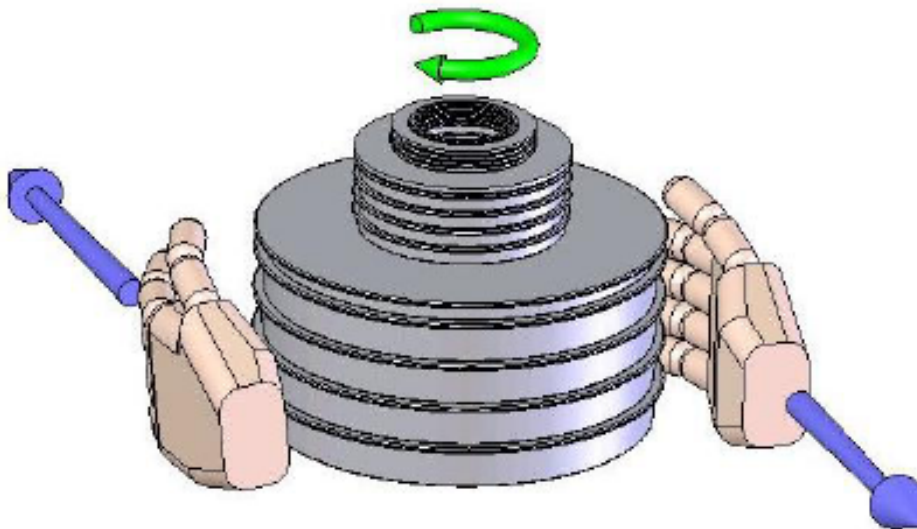

Figure 3-2. Weight Rotation
6. Gently rotate the weight stack clockwise, such that it is turning between approximately 10 and 60 rpm. Avoid side-loads when turning the weights by placing the palms of the hands on either side and "rolling" the stack by pulling in opposite directions, see Figure 3-2. **DO NOT rotate weights when the piston is against the top or bottom limits of travel.**